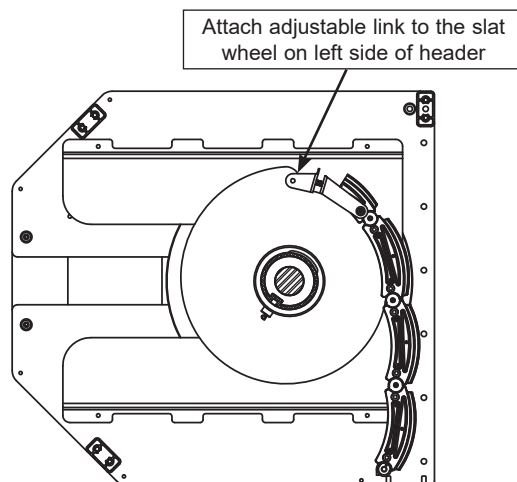

Figure 15: Attach Adjustable Link Assembly To Slat Wheel
- 1 With the barrel assembly back in it's original position, attach the adjustable link assembly 24B0945NN (see Figure 15 & 16), to the slat wheel.